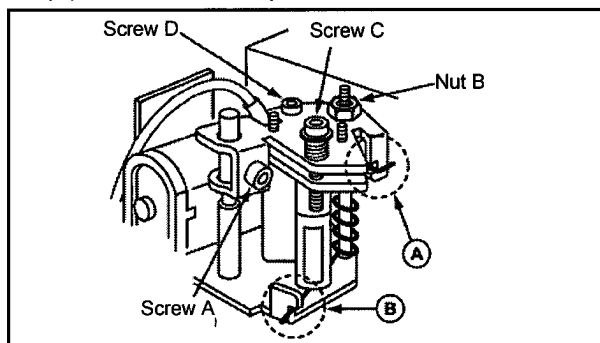

Fig.4-8-1
3. Loosen the hex screw (A) as shown in Fig. 4-8-1 and remove the Nut (B).
4. Remove the spring for Height Adjustment (B portion as shown in Fig. 4-8-1), and then pull up the Pre-CTL Head Unit.